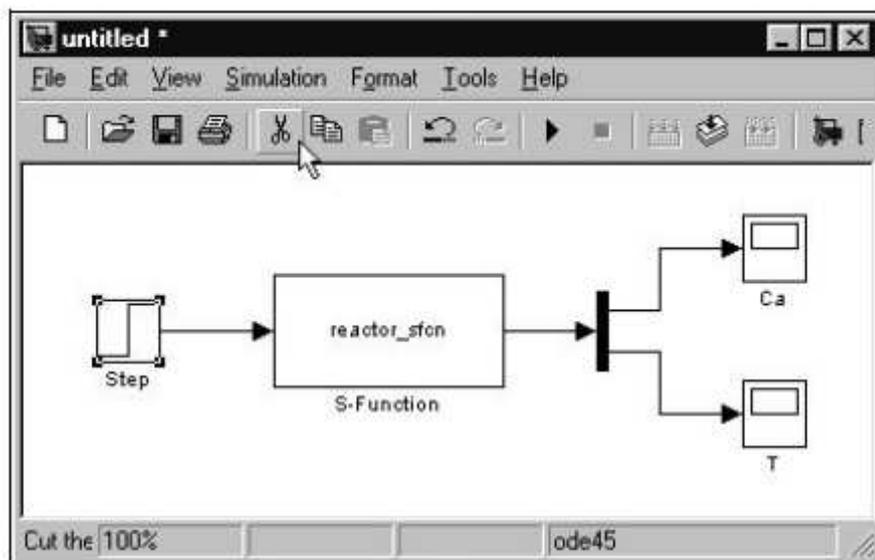

FIGURE 5 –
**Remark :** In figure 5, a demux block (demultiplexer) is included to split the output vector to the 2 elements. In other applications where the input vectors has more than one element, we need a mux block (multiplexer). Both mux and demux blocks reside in the Signal Routing subdirectory of the Simulink Library browser.